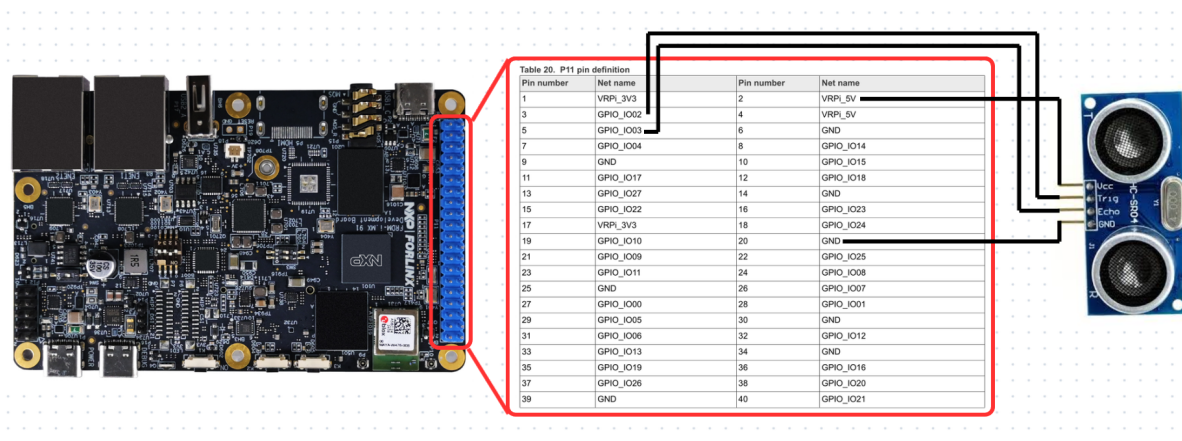

Figure 5.1: Connection of NXP with ultrasonic sensor for our code
1. **Physical Connection:** Ensure the HC-SR04 sensor is securely wired to the FRDM-i.MX91 GPIO pins exactly as illustrated in Figure 5.1.